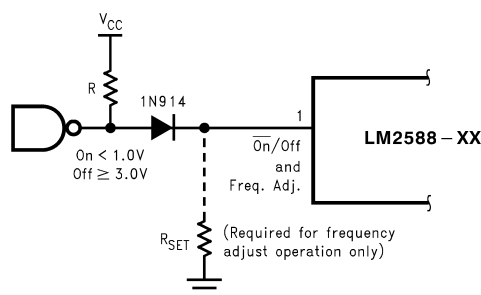

Figure 20. Shutdown Operation
- (1) All room temperature limits are 100% production tested, and all limits at temperature extremes are specified via correlation using standard Statistical Quality Control (SQC) methods.
- (2) To measure this parameter, the feedback voltage is set to a high value, depending on the output version of the device, to force the error amplifier output low and the switch off.
- (3) To measure this parameter, the feedback voltage is set to a low value, depending on the output version of the device, to force the error amplifier output high and the switch on.
- (4) To measure the worst-case error amplifier output current, the LM2588 is tested with the feedback voltage set to its low value (specified in Note 3 under the Electrical Characteristics: All Output Voltage Versions ⁽¹⁾ table) and at its high value (specified in Note 2 under the Electrical Characteristics: All Output Voltage Versions ⁽¹⁾ table).
- (5) When testing the minimum value, do not sink current from this pin—isolate it with a diode. If current is drawn from this pin, the frequency adjust circuit will begin operation (see Figure 20).
A feature of the LM2588 is its ability to be shut down using the $\overline{\text{ON}}$ /OFF pin (pin 1). This feature conserves input power by turning off the device when it is not in use. For proper operation, an isolation diode is required (as shown in Figure 20).
The device will shut down when 3 V or greater is applied on the $\overline{\text{ON}}$ /OFF pin, sourcing current into pin 1. In shut down mode, the device draws typically 56 μ A of supply current (16 μ A to V_{IN} and 40 μ A to the $\overline{\text{ON}}$ /OFF pin). To turn the device back on, leave pin 1 floating, using an (isolation) diode, as shown in Figure 20 (for normal operation, do not source or sink current to or from this pin—see the next section).
The switching frequency of the LM2588 can be adjusted with the use of an external resistor. This feature allows the user to optimize the size of the magnetics and the output capacitor(s) by tailoring the operating frequency. A resistor connected from pin 1 (the Freq. Adj. pin) to ground will set the switching frequency from 100 kHz to 200 kHz (maximum). As shown in Figure 20, the pin can be used to adjust the frequency while still providing the shut down function. A curve in the Performance Characteristics Section graphs the resistor value to the corresponding switching frequency. The table in Table 1 shows resistor values corresponding to commonly used frequencies.